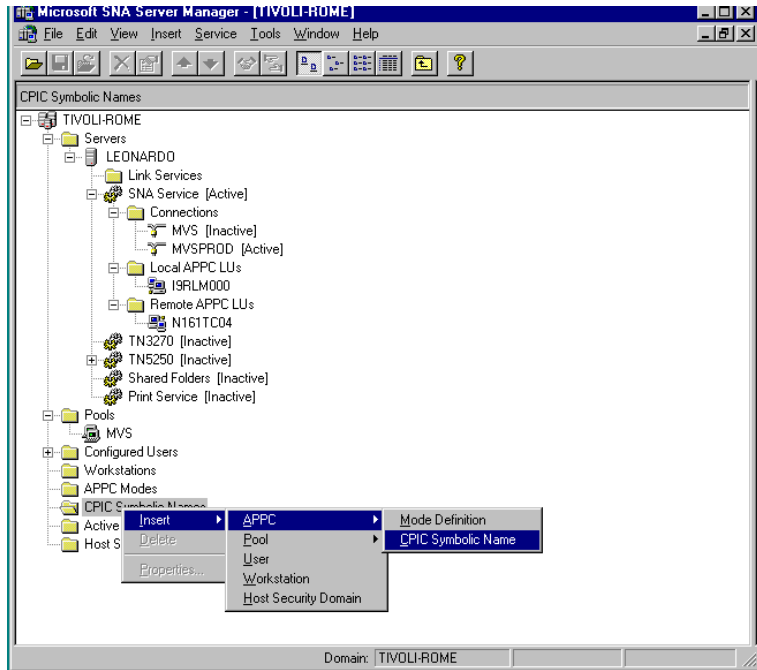

Figure 59. Selecting a CPIC symbolic name
► **Insert ► APPC ► CPIC Symbolic Name**, as shown in Figure 59.